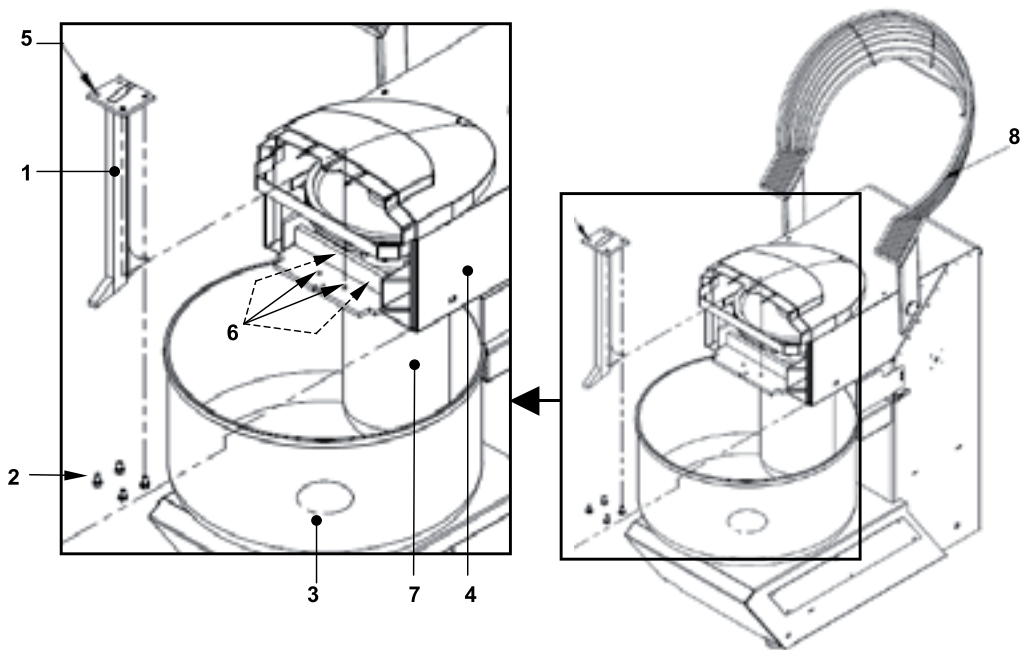

Figure 21 - Mounting/dismounting of the column
Look at Figure 21, remove the column pos. 1 as following:
- Fully lift the bowl cover pos. 8 and let it fall back.
- Loosen each of the 4 screws (pos. 2) one at a time until the column pos. 1 rests on the bottom of the bowl.
- Hold firm and position the column pos. 1 as vertical as possible, while extracting the screws pos. 2 and washers; move the column pos. 1 out of the head pos. 4; then pull it out; the weight of the column is not particularly heavy (indications below for the different models of the machine), however it is important to hold it well in order to keep it balanced on the arms; keep arms close to the body as much as possible while the bust leans forward, rather bend your knees and keep your upper body upright as much as possible; this is in order to minimize the risk bone/muscle pains; comply with the instructions given by the employer during education and training on safety and health in the workplace.